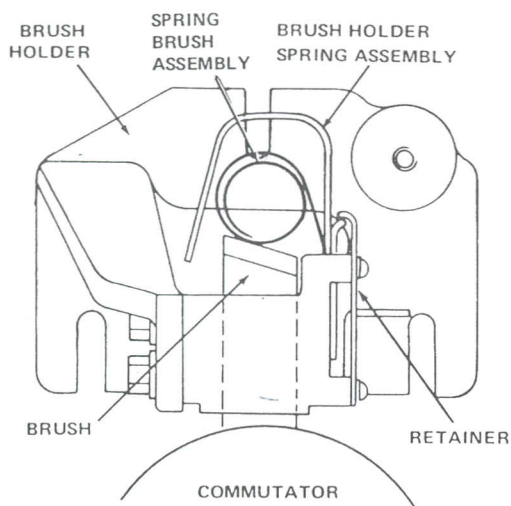

Figure 5-39. Constant-Pressure Brush Holder, DC Motors
8. Newer DC motors are equipped with the constant-pressure type brush holder shown in Figure 5-39. If insufficient pressure exists, it can only be corrected by replacing the brush spring assembly.
b. If constant-pressure brush holders are used (Figure 5-39), push down slightly on the brush holder spring